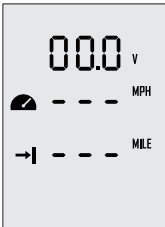

Figure 6-1
Step1: In power-on state, press “**M**” button and hold to enter the preference setting page as shown in Figure 6-1. Users can choose display items based on personal needs and preference.
Step2: On the preference setting page, the blinking item is the object waiting to be set. Press the “**^**” button to view options for the blinking item. For example, in Figure 6-1, if “**V**” is blinking on the preference setting page, it means that “**V**” has other alternate options. Just press the “**^**” button, and “**V**” will switch to “**%**”, i.e. the displayed item is switched from voltage to battery level.